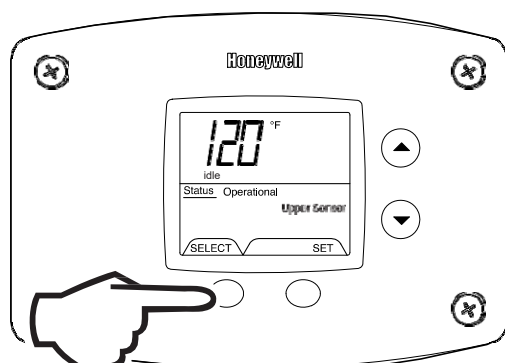

Fig. 43
- 2b. Water Temperature - Upper Sensor (Displays if there is an upper sensor – some models) (Fig. 43).